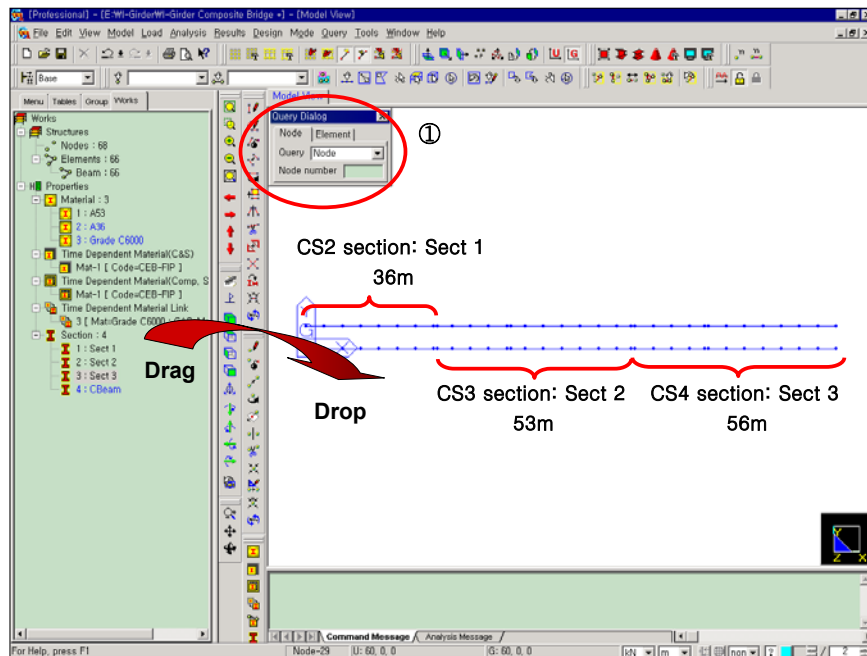

Figure 15. Different Section Names assigned to each part of the section
The distance between the nodes consecutively queried can be easily checked with **Query Nodes** (Figure 15 ①).